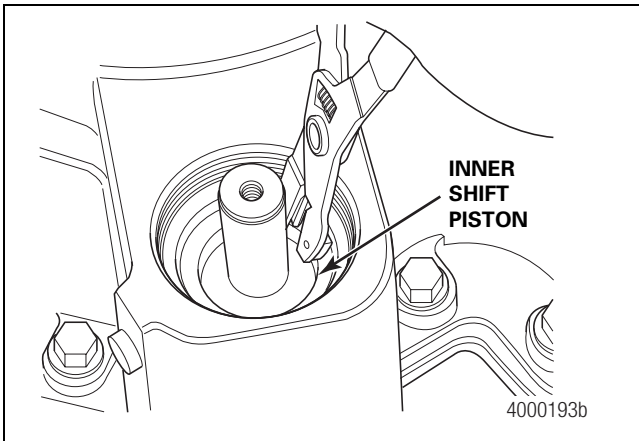

Figure 6.15
2. Install O-rings onto the inside diameter and outside diameter of the inner piston. Install the inner shift piston and snap ring onto the shift shaft. Figure 6.15.